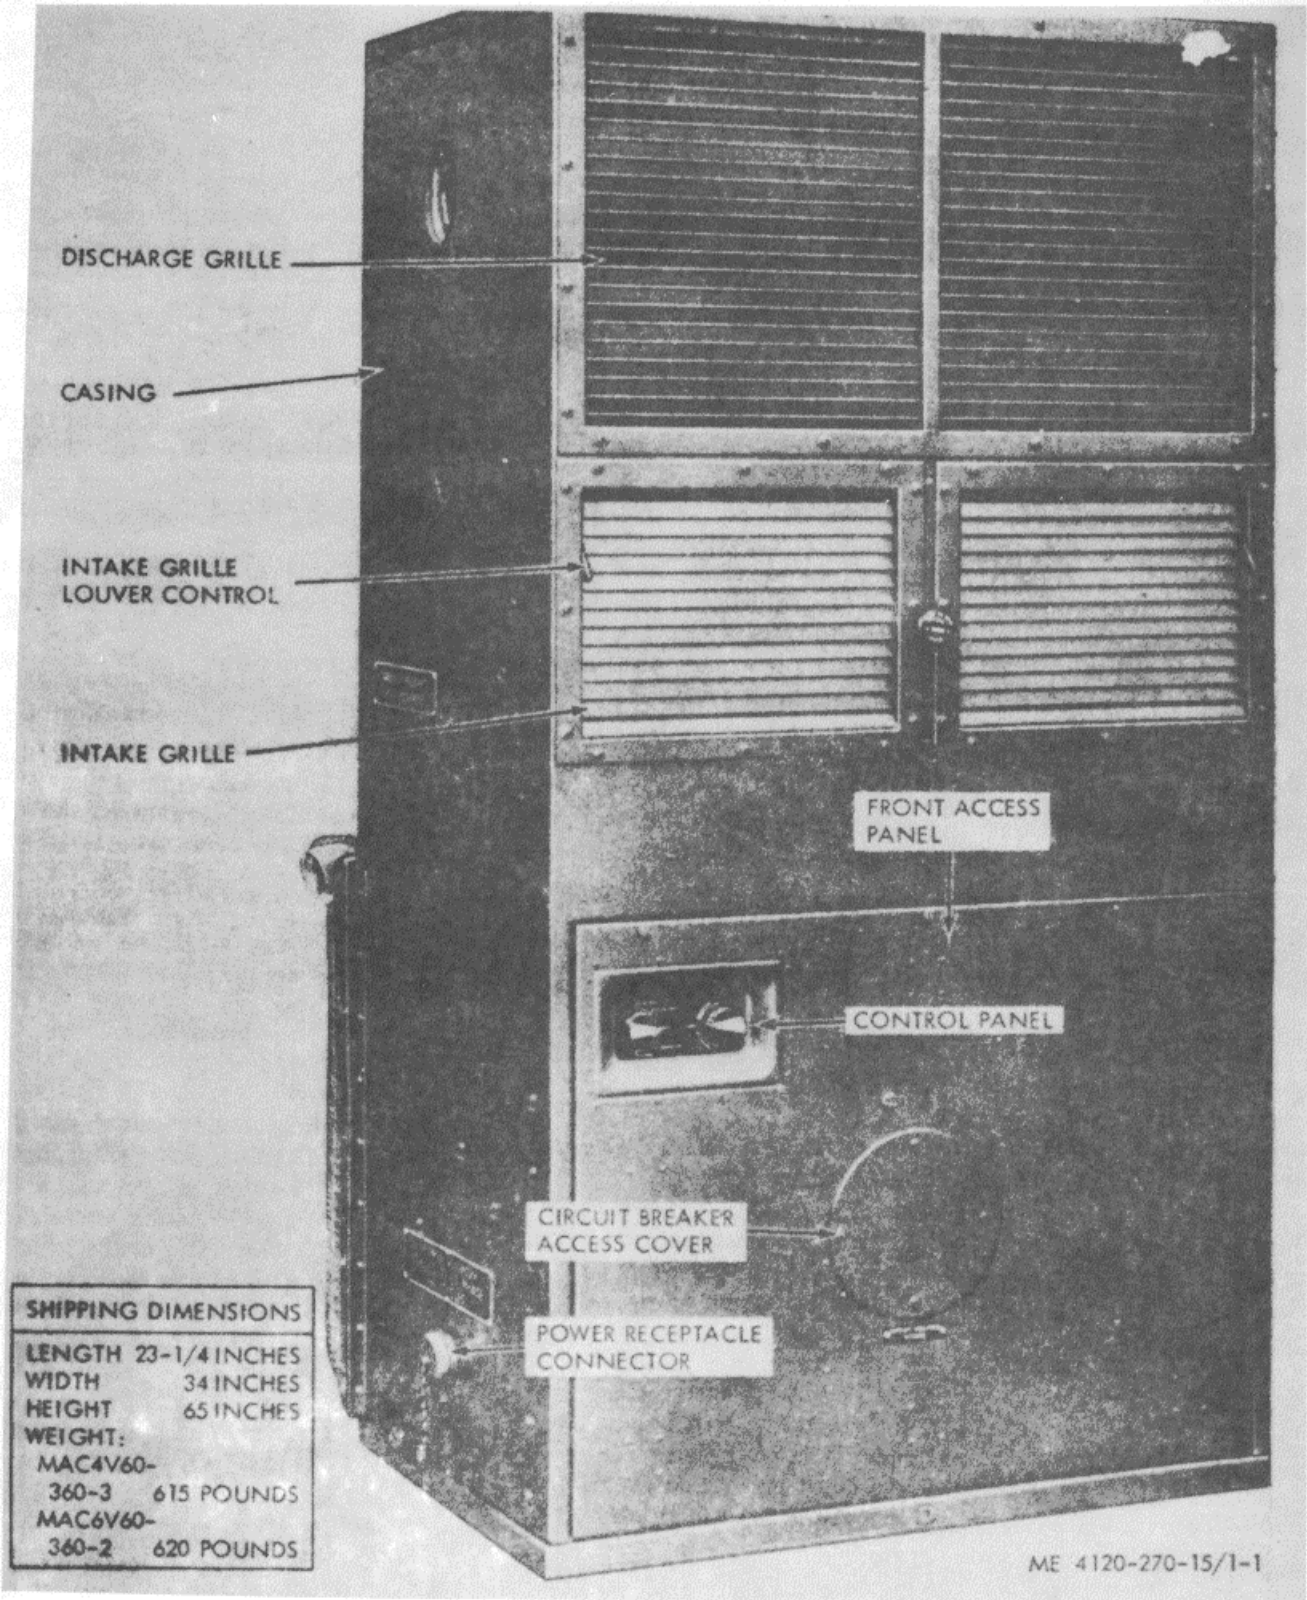

Figure 1-1. Air Conditioner, left front 3/4 view with shipping dimensions.
a. General. The air conditioner (fig. 1-1 through 13) is used primarily in van type enclosures for providing filtered, conditioned, or heated air as required to maintain service conditions necessary for the efficient operation of electronic equipment and for the comfort of operating personnel housed within the specified vans. It is a completely self-contained, air cooled, electric motor driven unit designed for continuous operation with varying loads. It is equipped with internal ducting to the low side of the evaporator fans so that ventilation air from the Chemical, Biological, and Radiological (CBR) filter unit may be supplied by the evaporator fans.